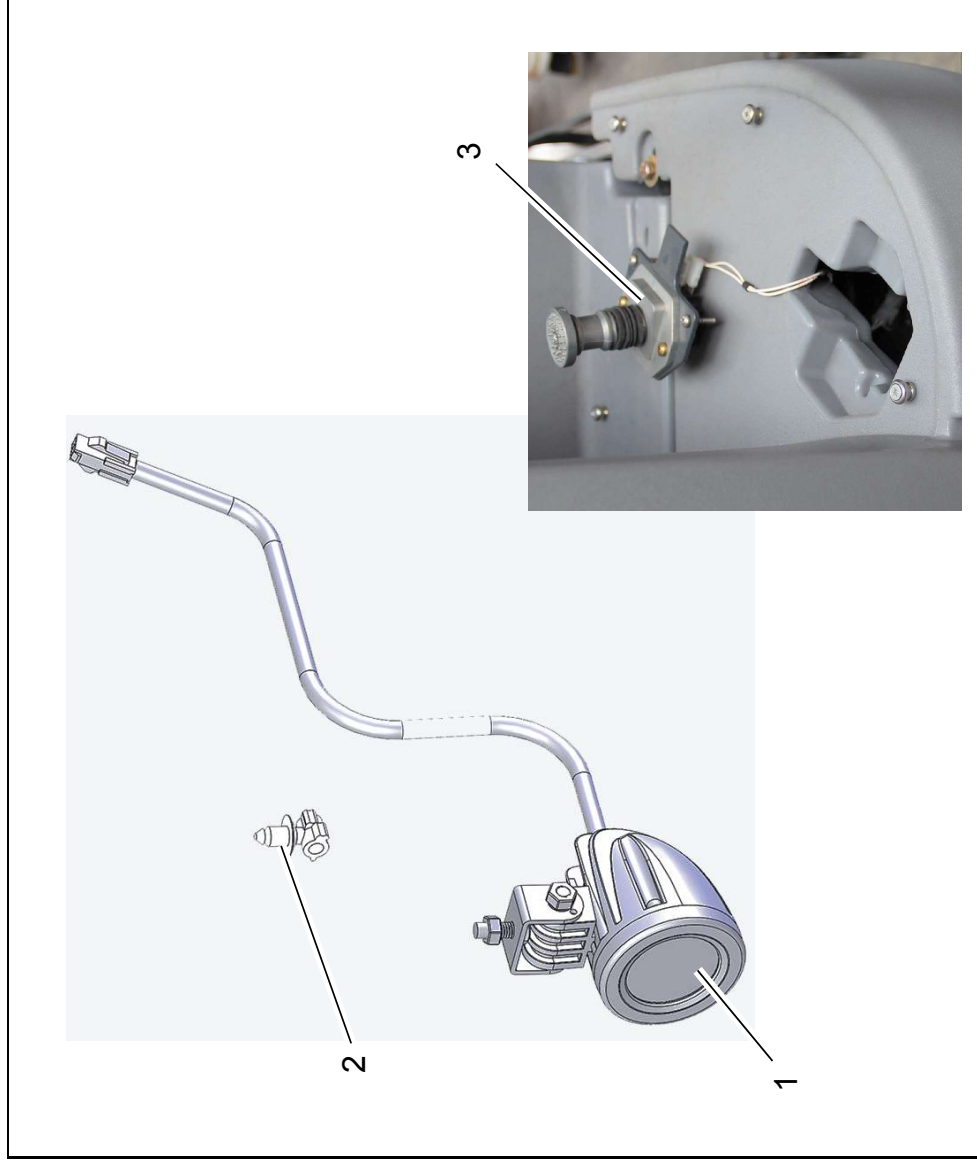

Fig. 1
- 3. Remove brake button (Fig. 1/3)